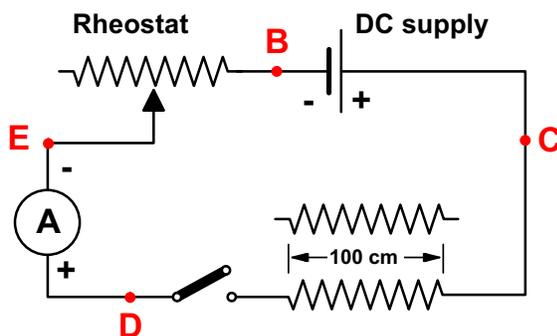

Figure 3
connected so that the current will enter the binding post on the meter marked plus (see figure 3). The symbol used to designate a DC supply has two parallel lines where the longer line represents the positive electrode.
A conductor whose electrical resistance is large enough to be taken into account is called a resistor and denoted by a sawtooth symbol as in figure 3. A connecting wire has such a small resistance that it maybe neglected in most laboratory work. The symbol for a connecting wire is a straight line. The two 100 cm long straight wires, mounted on a board have a resistance that cannot be neglected, unlike the copper connecting wires.
- A. Connect the apparatus as shown in Fig. 3. Close the switch and note the value of the current on the ammeter. Open the switch, remove the ammeter from the position shown in the figure and place it in turn in positions B and C. For each position, note the current when the switch is closed.
- A.** Using the circuit shown in Fig. 3, set the contact of the rheostat at some intermediate position and close the switch. Connect the voltmeter across each part of the circuit (BC - the DC supply, CD - the resistance wire, DE - the ammeter, and finally EB - the rheostat).